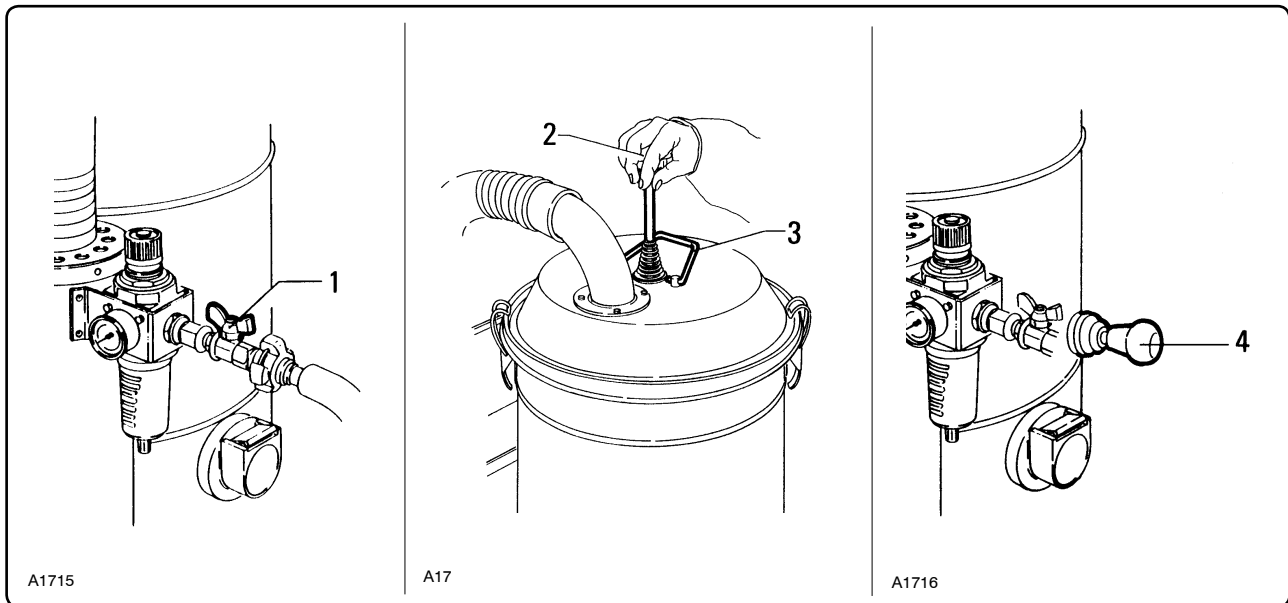

Fig. 6.5.1
6.5 - Cleaning the primary filter (fig. 6.5.1)
- Strongly lift and lower knob "2" (fig. 6.5.1) several times in order to detach the dust from the filter.